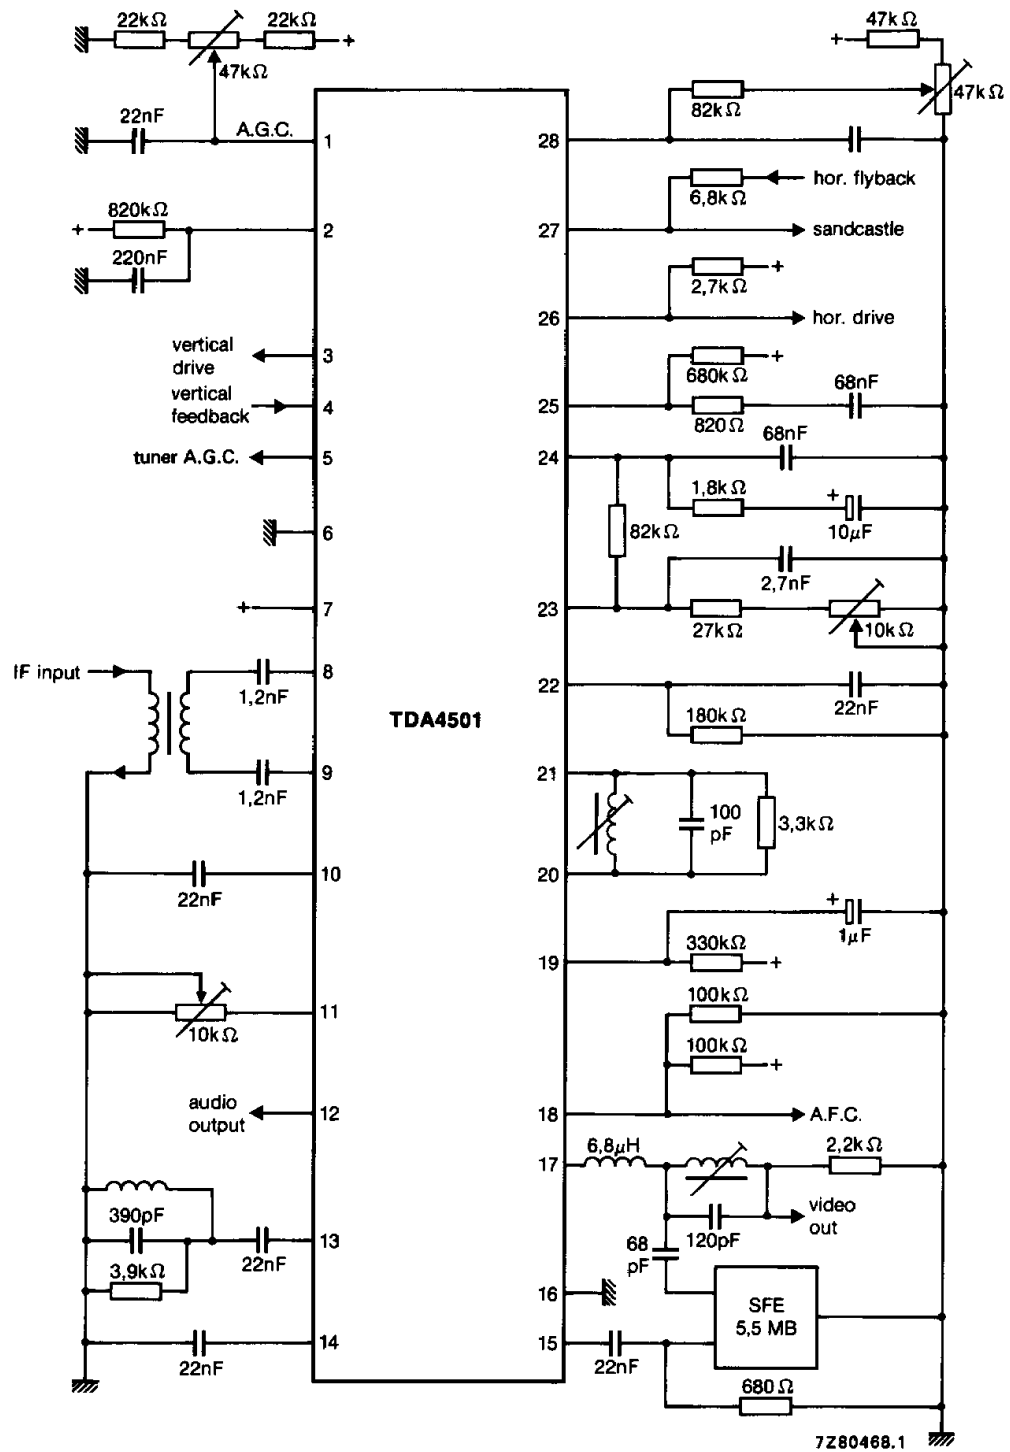

Fig. 2 Application diagram.
4. $V_{i(\text{rms})} = 10 \text{ mV}$; see Fig. 2; Q-factor = 36.